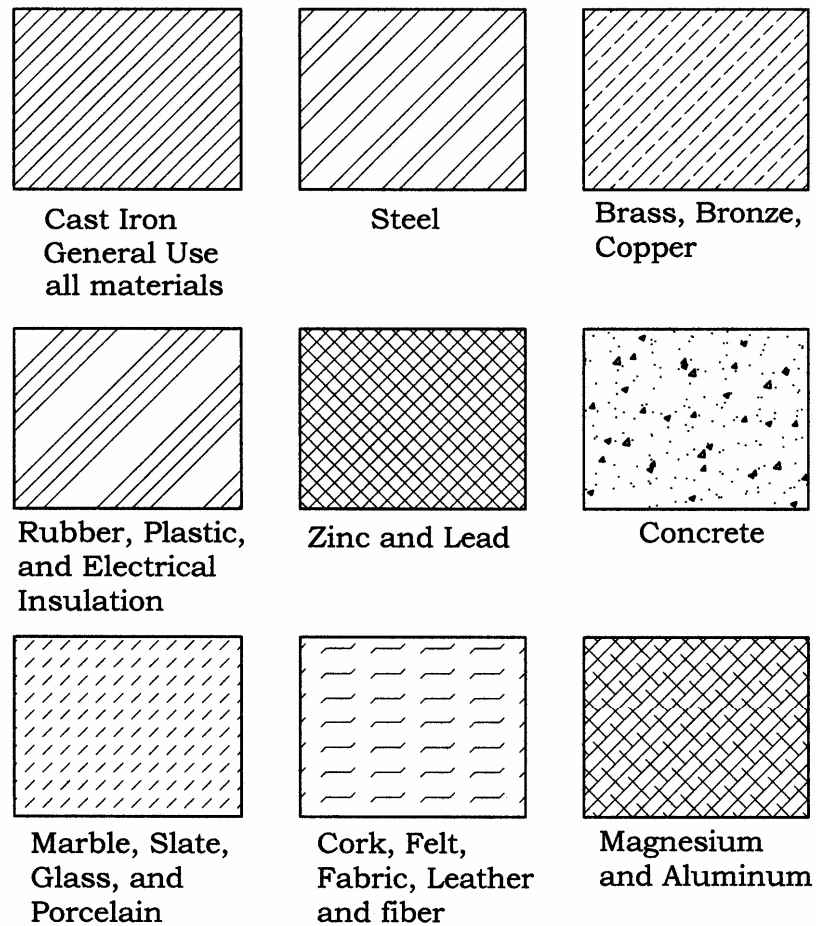

Figure 3-4: Section line symbols.
- √ Section line symbols (i.e. line type and spacing) are chosen according to the material that the object is made from. Figure 3-4 shows some of the more commonly used section line symbols.